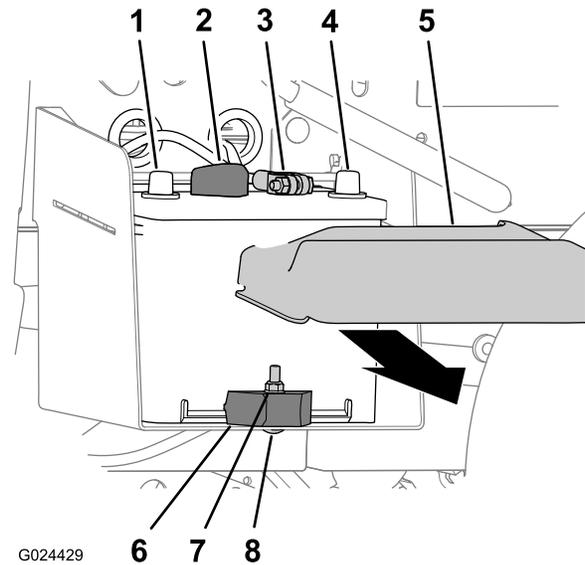

Figure 50
1. Squeeze the sides of the battery cover and remove the cover from the top of the battery (Figure 50).
2. Disconnect the negative-battery cable from the terminal of the battery (Figure 50).
3. Disconnect the positive battery cable from the terminal of the battery (Figure 50).
2. Remove the locknut, carriage bolt, and battery clamp that secures the battery to the battery tray (Figure 50).
3. Remove the battery from the battery tray (Figure 50).
1. Align the battery to the battery tray of the machine (Figure 50).
Note: Ensure that the positive and negative posts of the battery are aligned as shown in Figure 50.
2. Secure the battery to the battery tray with the battery clamp, carriage bolt, and locknut (Figure 50).
1. Connect the positive battery cable to the terminal of the battery (Figure 50).
2. Connect the negative battery cable to the terminal of the battery (Figure 50).
3. Install the battery cover onto the top of the battery (Figure 50).